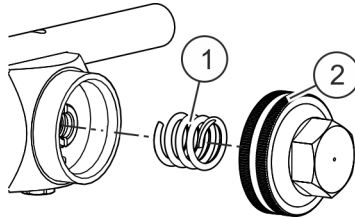

Fig. 7: Unscrewing the sealing cap and removing the pressure spring
3. ➔ Unscrew the sealing cap ( Fig. 7/2).
The sealing cap ( Fig. 7/2) is under spring tension.
4. ➔ Remove the pressure spring ( Fig. 7/1).